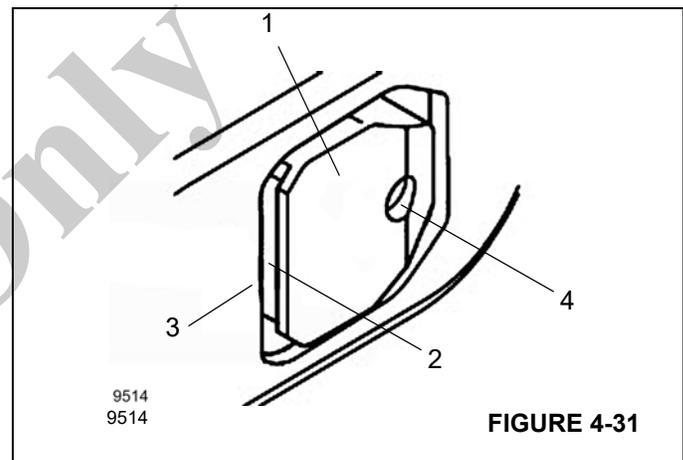

FIGURE 4-31
You can only lock or unlock a telescopic section manually if the recess (2), (Figure 4-31) in the locking pin (1), (Figure 4-31) no longer engages in the telescopic section (3), (Figure 4-31) above it.
Extend the Telescopic Section approximately 20 mm (0.79 in) (with an auxiliary crane, forklift or other means of external force). The locking pin (1), (Figure 4-31) must be centered in the opening and the recess (2), (Figure 4-31) may no longer engage in the telescopic section (3), (Figure 4-31) above it.
- Remove the grease fitting from the bore hole (4), (Figure 4-31).
- Insert a screw into the hole (4), (Figure 4-31). The locking pin (1), (Figure 4-31) is retracted in the process. You can assist this process by lightly hammering on the locking pins.
3. Tighten the screw against the spring load until the locking pin (1), (Figure 4-31) is pulled in as far as it will go and is situated behind the side wall of the telescopic section.
1. Retract the telescopic section until the locking pin (1), (Figure 4-31) is in the middle of the opening.
2. Remove the screw from the bore hole (4), (Figure 4-31).
The locking pin (1), (Figure 4-31) is then pushed out of the opening due to spring tension.
4. Retract the telescopic section until the recesses (2), (Figure 4-31) have been set down on the telescopic section (3), (Figure 4-31) above it.